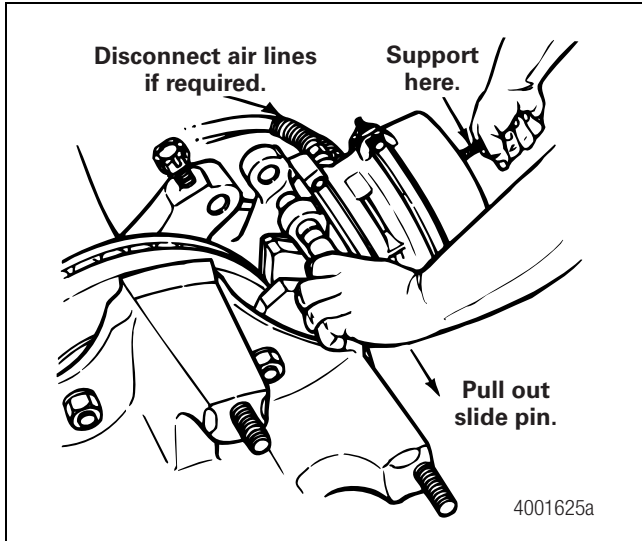

Figure 10.6
12. Hold the air chamber and lower the caliper. Figure 10.6.